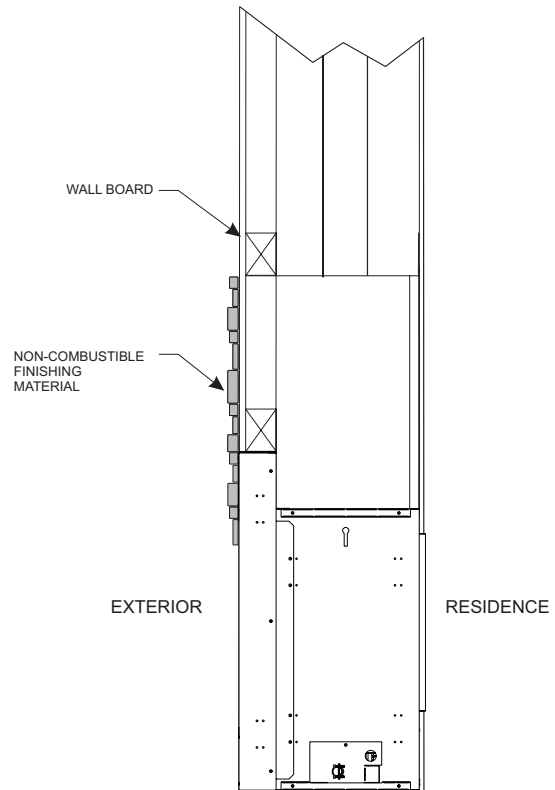

Figure 14
- 3b. Exterior non-combustible finishing material is placed over the face of the outdoor kit. See Figure 14.